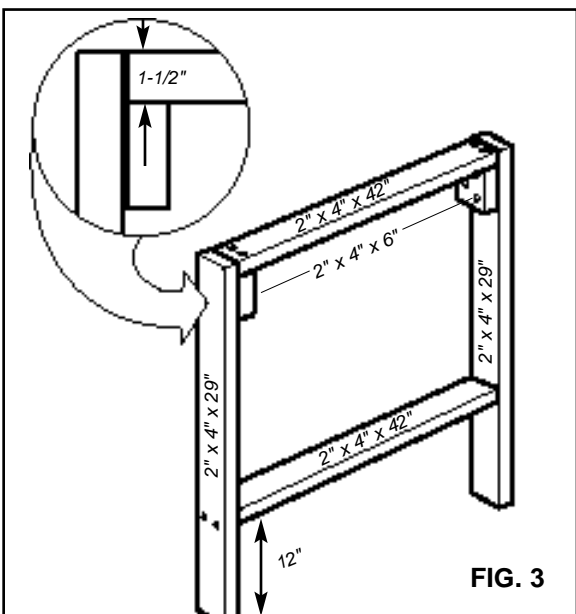

FIG. 3
4. Assemble the wall support as illustrated in Fig. 3. Use three 2-1/2" screws to attach the 2" x 4" x 6" boards and two 3" screws per joint for the remaining assembly. **Note: Screws are included.**